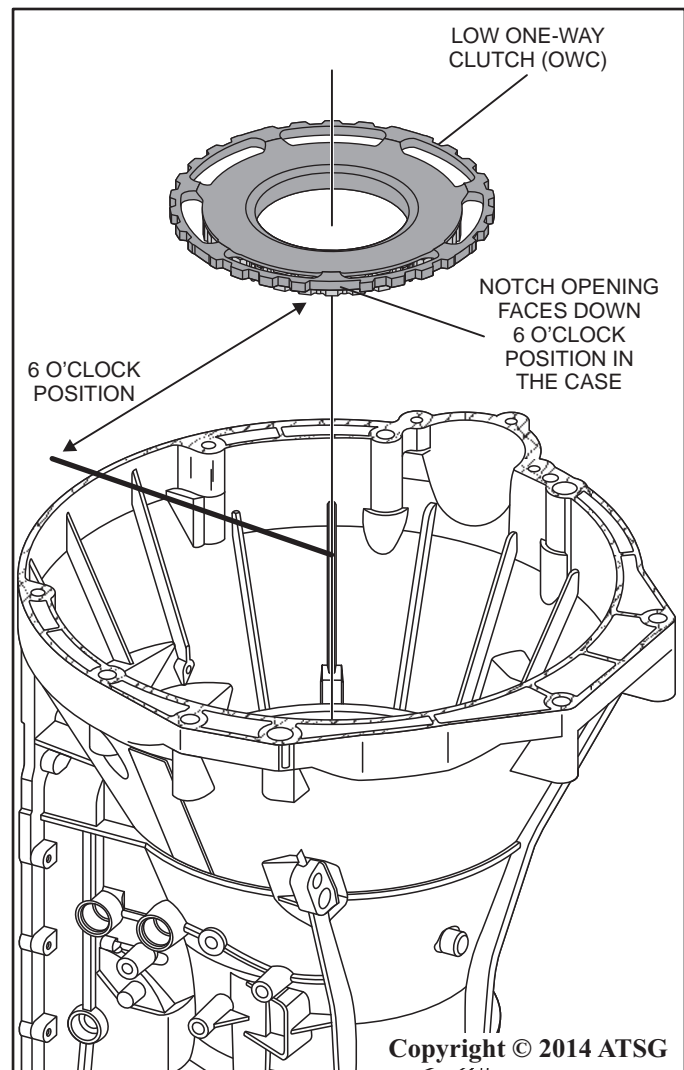

Figure 137
20. **NOTE: Step 20 and 21 for 2011 - later 6R80 vehicles with low one-way clutch (OWC).** Install the low one-way clutch (OWC) into the transmission with notch opening to 6 o'clock as shown in Figure 137.